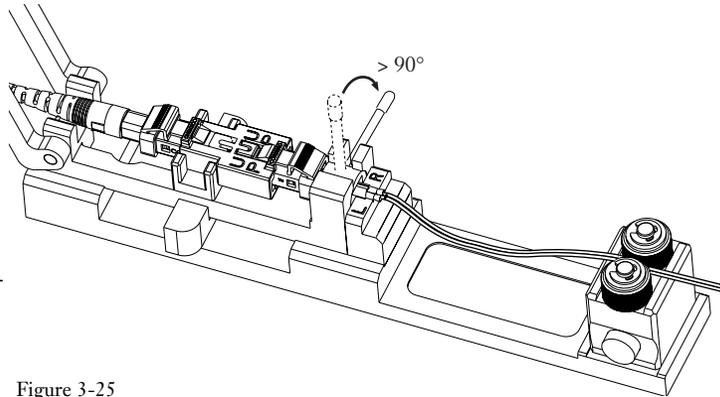

Figure 3-25
**3.7-5** Rotate the wrench down until it stops (Figure 3-25). It is normal for the wrench to rotate beyond 90°.